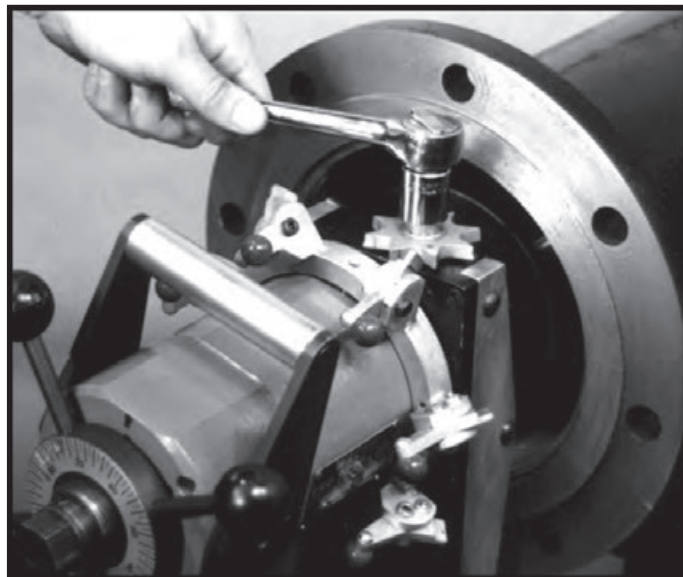
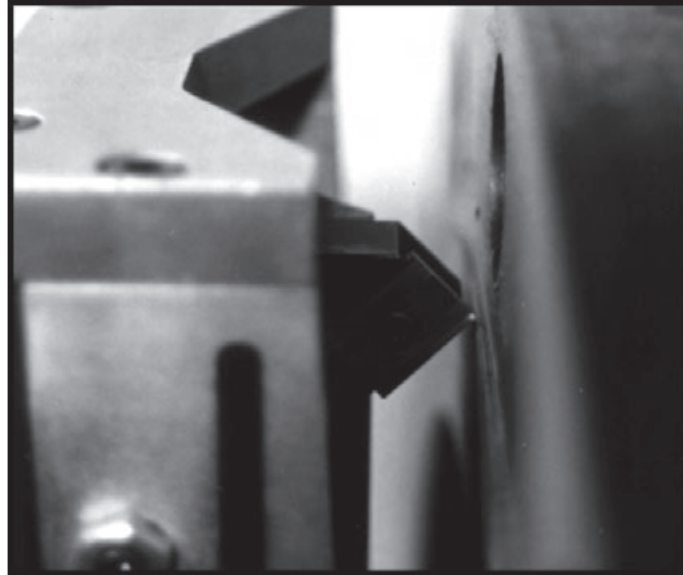

Figure 3-24.
Figure 3-25.
16. Rotate the starwheel nut with the supplied 3/4" socket and ratchet, (Figure 3-24) until the tool bit tip is flush with the desired surface to be faced. (Figure 3-25).